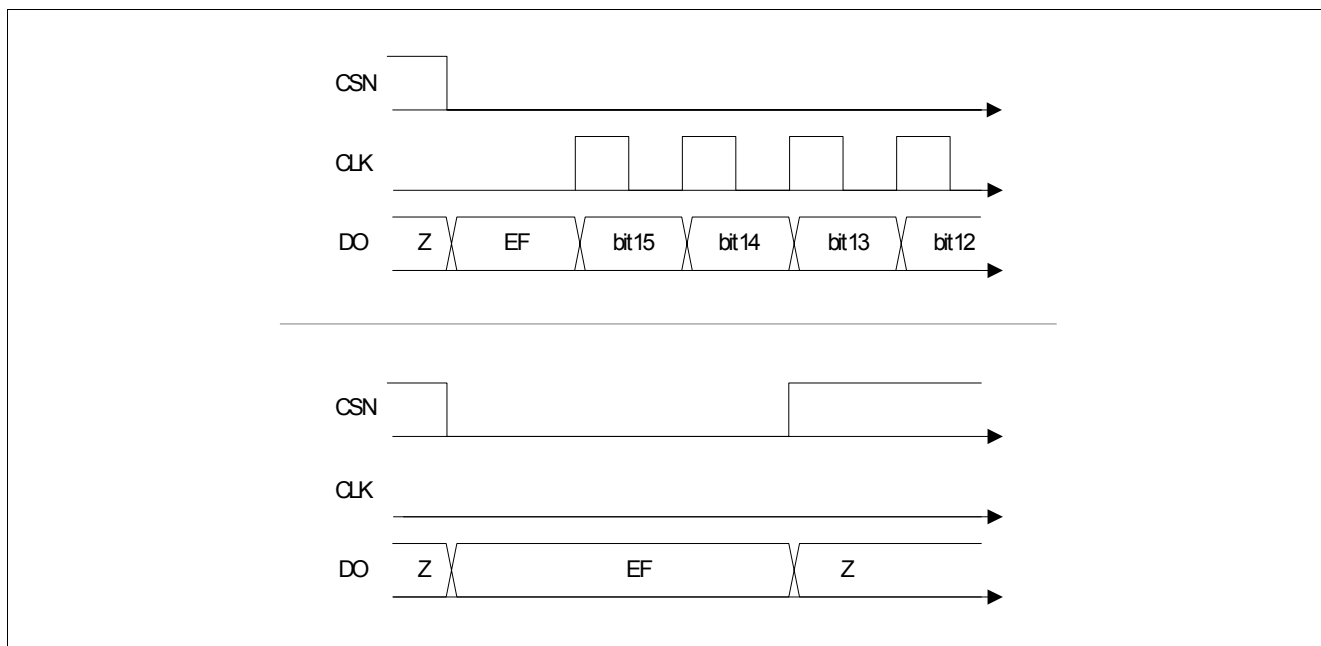

Figure 6 Error Flag Transmission on DO during Standard SPI Transmission (top), or without Additional SPI Transmission, CLK Low (bottom)
In addition to the 16 bits transferred from the TLE 8203E to the SPI master, an additional Error Flag (EF) is transmitted at the DO pin. The EF status is shown on the DO pin after CSN H -> L, before the first rising edge at CLK, as shown in Figure 6.